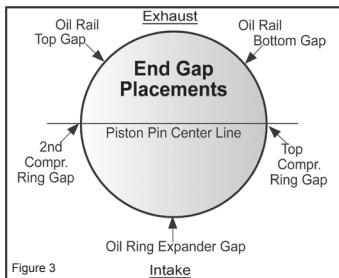

Figure 3
12. Make sure installation of the multiple piece oil control ring (if applicable) is still in good order. The ring gaps of all rings should be installed as per the drawing in figure 3.